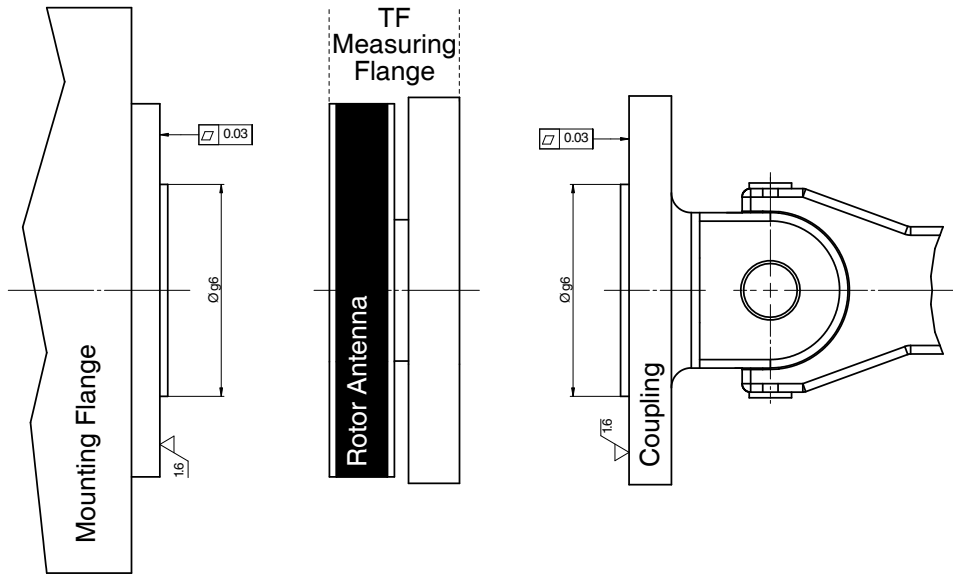

Figure 2–6 Mounting Flange and Coupling Specifications
- To achieve the best possible centering of the measuring flange, the mounting flanges and couplings should use a centering device with a g6 tolerance on the outside diameter as illustrated in *Figure 2–6 Mounting Flange and Coupling Specifications*.
Note: If the mounting flange is also fitted with a centering bore, an intermediate centering washer may be used (see *Figure 2–8 Mounted TF*).